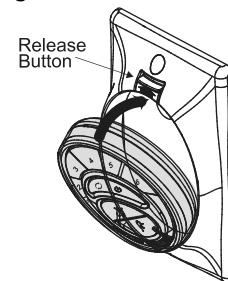

Fig. 19
**Step 1.** Insert the transmitter into the wall plate by inserting the bottom of the transmitter first and then pressing the top of the transmitter into the pocket. The transmitter will fully function from this location or you can remove the transmitter and use it as a hand held device. (Fig. 19)